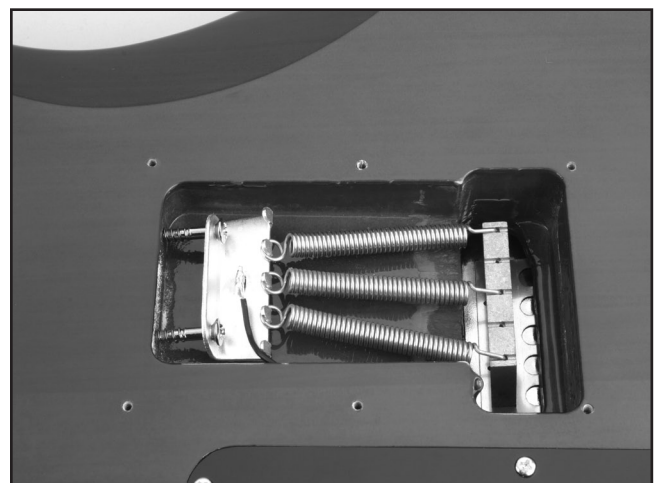

Figure 28. Correct spring placement.
6. Stretch the three springs from the spring claw to the tremolo bridge as shown in **Figure 28**.